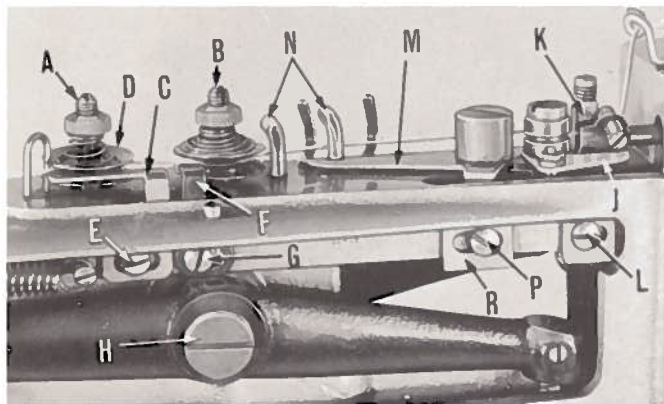

Fig. 12
The regular thread tension (A, Fig. 12) is located behind the automatic thread tension (B) and controls the tightness of the button. The tension required will vary in relation to the types of thread, materials, and thickness of buttons used. Normally, only a light tension is required.
Check the position of the tension releasing lever (C, Fig. 12) to see that it comes as close as possible to the tension discs (D) without contacting them. Adjustment is made by loosening screw (E) and moving the lever (C) in the required direction. In the illustration (Fig. 12), another tension releasing lever (F) is shown. This lever is used only on Style 200-10, and is adjusted in relation to the automatic tension discs in the same manner in which lever (C) is adjusted for the regular tension discs. Loosen screw (G) to make this adjustment.
To make this adjustment, turn pulley in operating direction until the needle bar has risen to the heights described above. Loosen the two hexagonal head screws (B) in needle lever hub and turn needle lever shaft (H, Fig. 12) with a screw driver until the tension releases.
The thread nipper (J, Fig. 12) pinches and holds the thread so that the raising of the button clamp at the conclusion of the sewing cycle will break off the thread at the button. On Style 200-10, the thread nipper also pinches and holds the thread at the middle of the sewing cycle so that the knife can cut the cross-over stitch.
The thread pull-off lever (M, Fig. 12) controls the amount of thread which is pulled through the tensions, at the end of a stitching cycle, to provide sufficient thread for the first stitch of the following cycle.